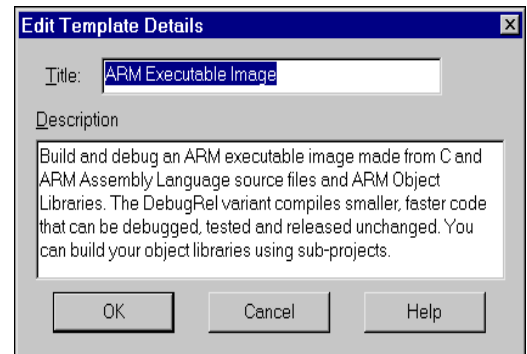

Figure 2-23 Edit Template Details dialog
2. Click **Edit Details**. The Edit Template Details dialog is displayed (Figure 2-23).